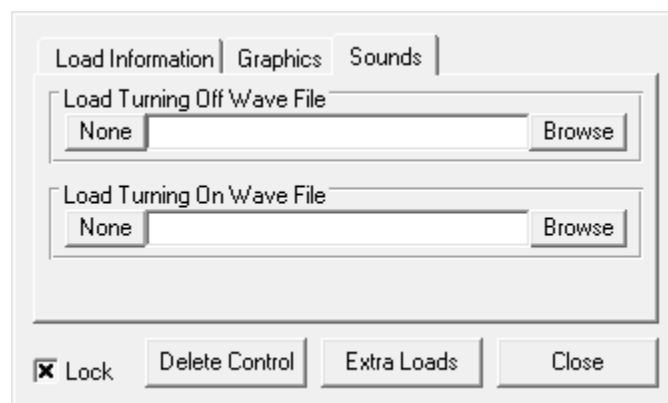

Figure 2.5
- **Sound**- you can define a particular WAV audio file to play when the load it represents goes ON and another sound when the load goes off as shown in figure 2.5.